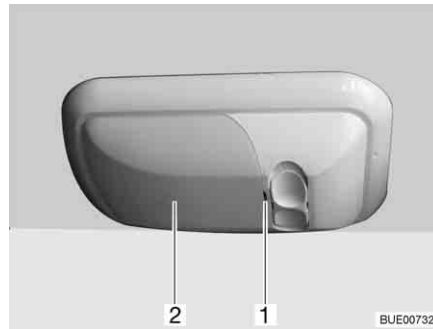

Fig. 290 Garage light
- Use a suitable tool (e.g. a screwdriver) to carefully lever out the cover (Fig. 290,2) at the notch (Fig. 290,1) and remove it.